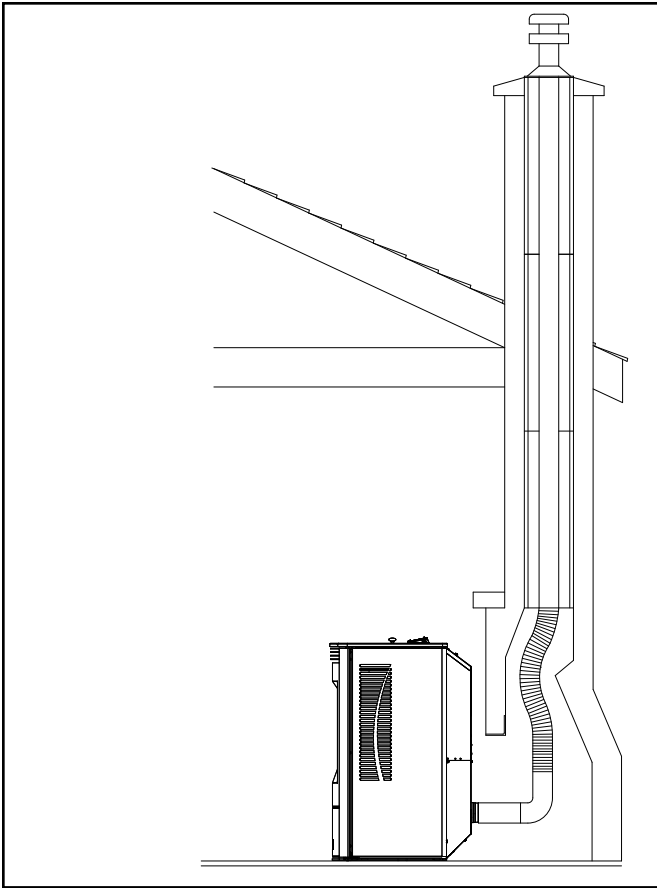

Figure 4.5
**#5 Installing into an existing fireplace chimney (Figure 4.5) w/Full Liner**